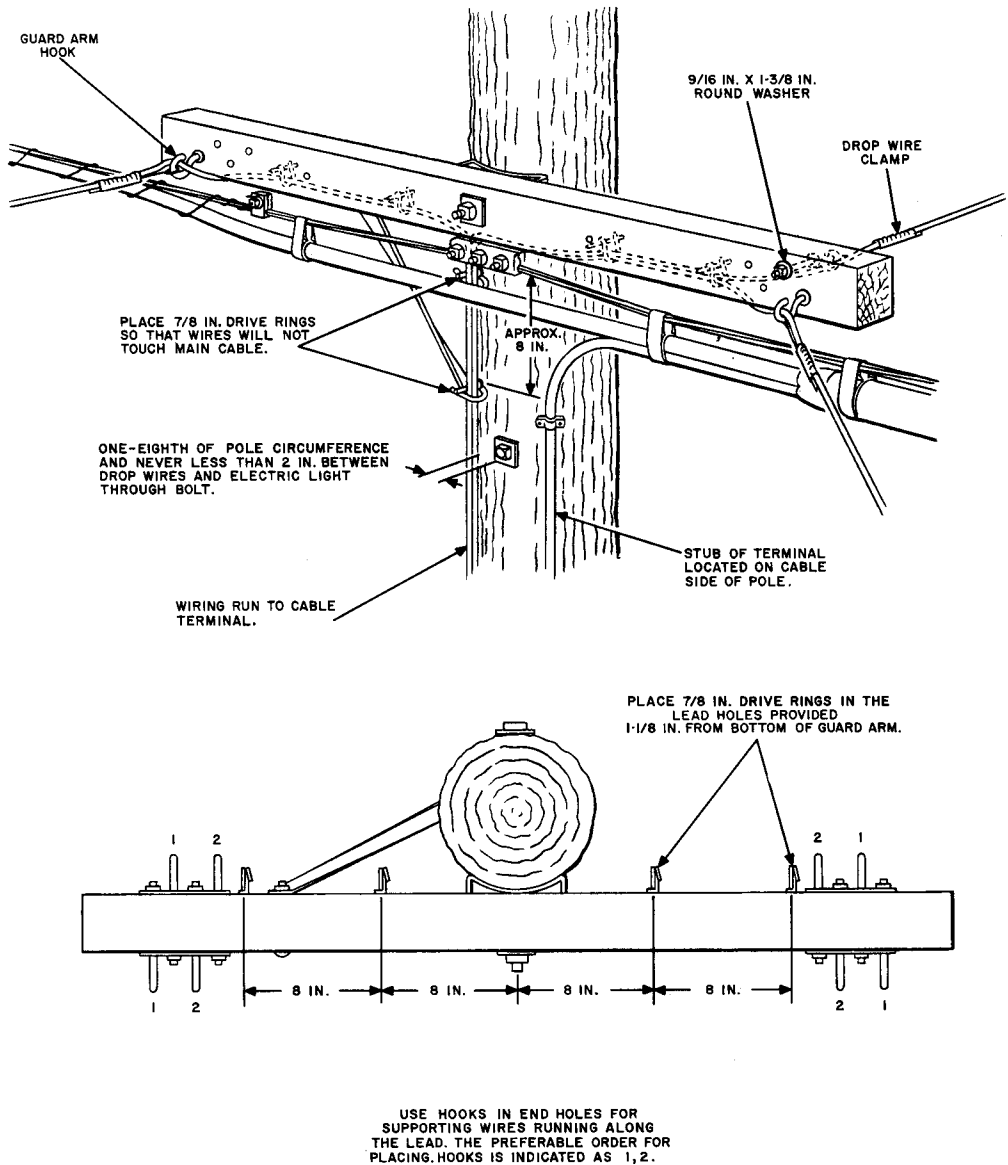

Fig. 7 — Cable Terminal Mounted on Cable Side of Pole
5.01 Distribute drop wires from a guard arm as shown in Fig. 7 and 8.